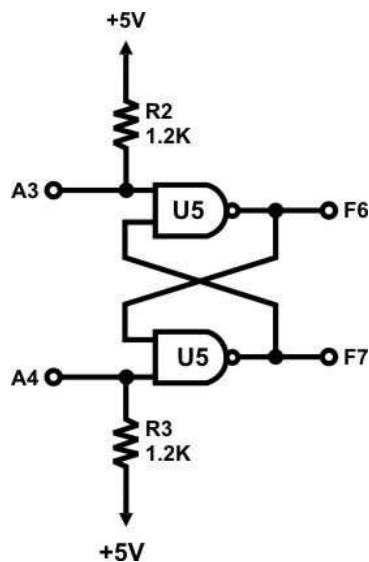

Figure 5.10: RS latch.
1. Use the KL-33008 module to construct the circuit shown in Figure 5.10.